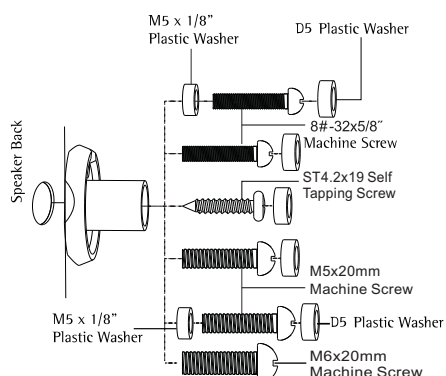

Figure 3
4. Check the size of the hole and make sure the 8#-32x5/8" machine screw, the ST4.2x19 Self Tapping Screw, the M6 x 20mm, or the M5 x 20mm fits inside (Figure 3).